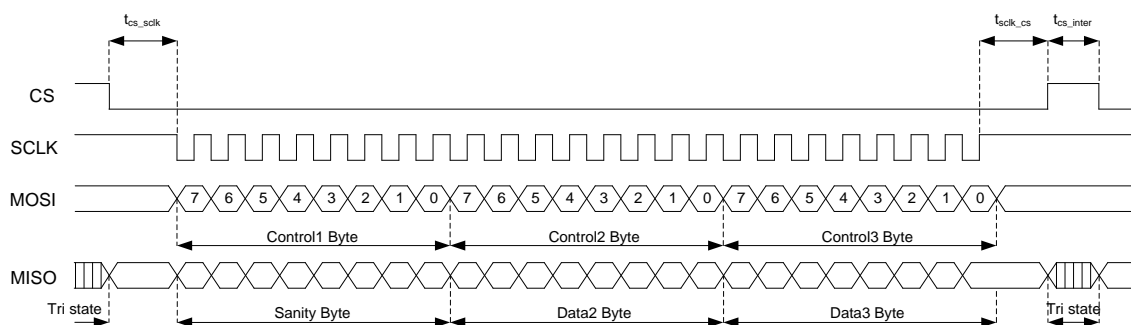

Figure 2: SPI Timing Diagram
A SPI timing diagram is given in Figure 2. This is the general format for sending a command. First the CS pin must be set low so that the sensor can accept data. The low level on the CS pin in combination with the first rising clock edge is used to start an internal synchronization counter that counts the incoming bits. Data on the *MOSI* pin is clocked in at the rising clock edge. Data on the *MISO* pin is shifted out during the falling clock edge. Note that the tri-state of the *MISO* pin is controlled by the state of CS.
The thresholds can be read back with the Read Thresholds (RT) command after a WT command or before a SI command. During a 1 bit or 1.5 bit RO sequence, the content of the DAC register is also available in the output data frame (see also 10.2.4.3). Table 5 defines the RT command. The read-out Data2 byte contains both the High and the Low thresholds (see also Figure 2).